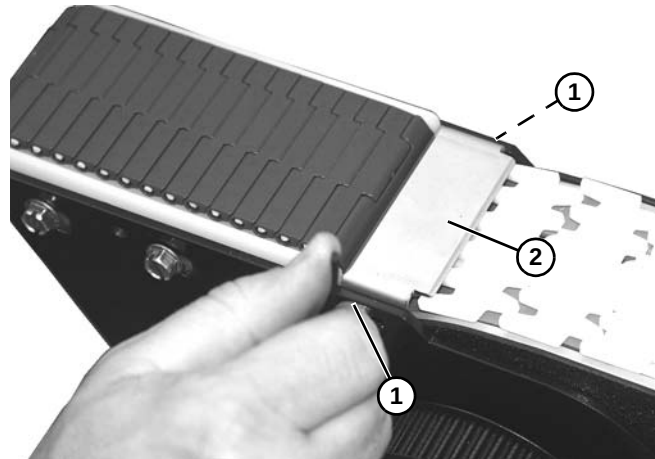

Figure 105
6. Remove two socket head screws (**Figure 105, item 1**) and tensioner plate (**Figure 105, item 2**).